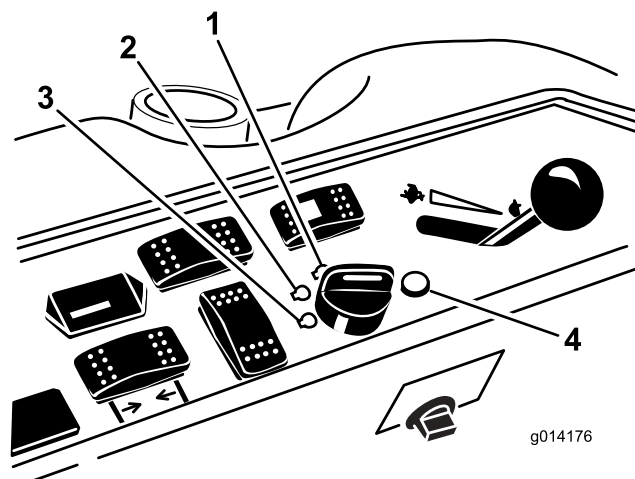

Figure 14
6. Turn the ignition key clockwise to the Run position (Figure 14).
3. Turn the ignition key to the Off position (Figure 14). Wait for all moving parts to stop before leaving the operating position.